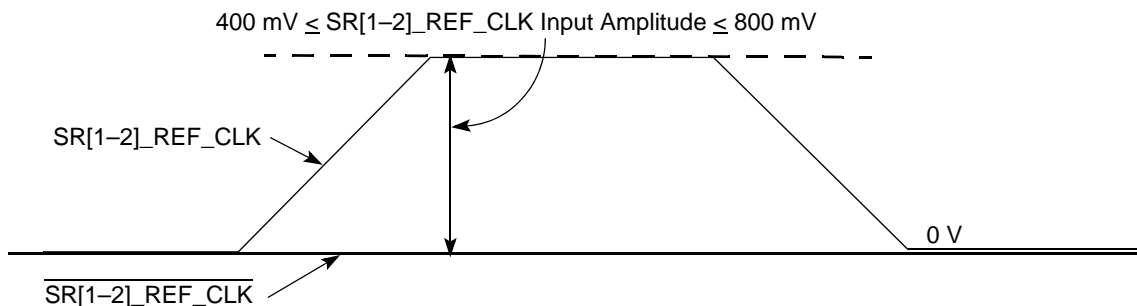

Figure 9. Single-Ended Reference Clock Input DC Requirements
- The $SR[1-2]_{REF_CLK}$ input average voltage must be between 200 and 400 mV. **Figure 9** shows the SerDes reference clock input requirement for single-ended signalling mode.